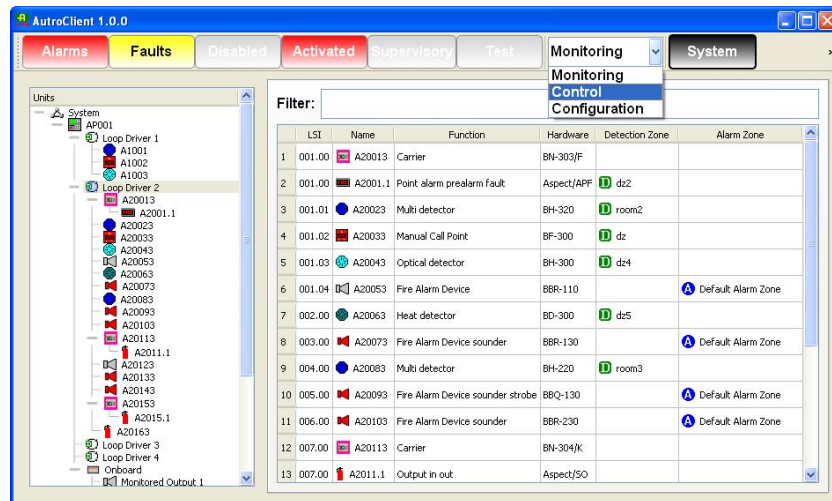

Figure 6. Set the AutoClient in Control mode.
- To enter control mode, select the ComboBox Control option from the AutoClient toolbar as shown in figure 6.